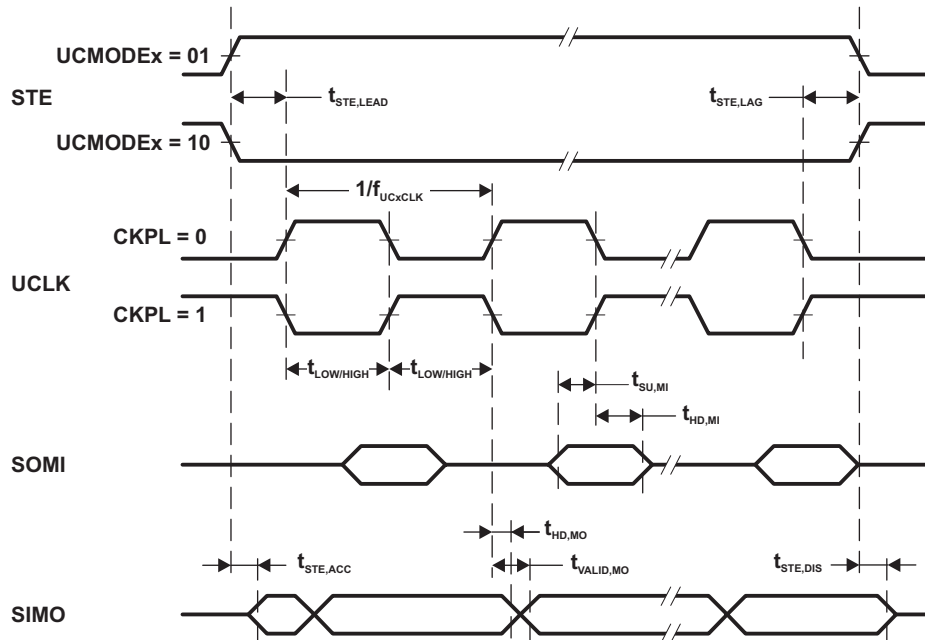
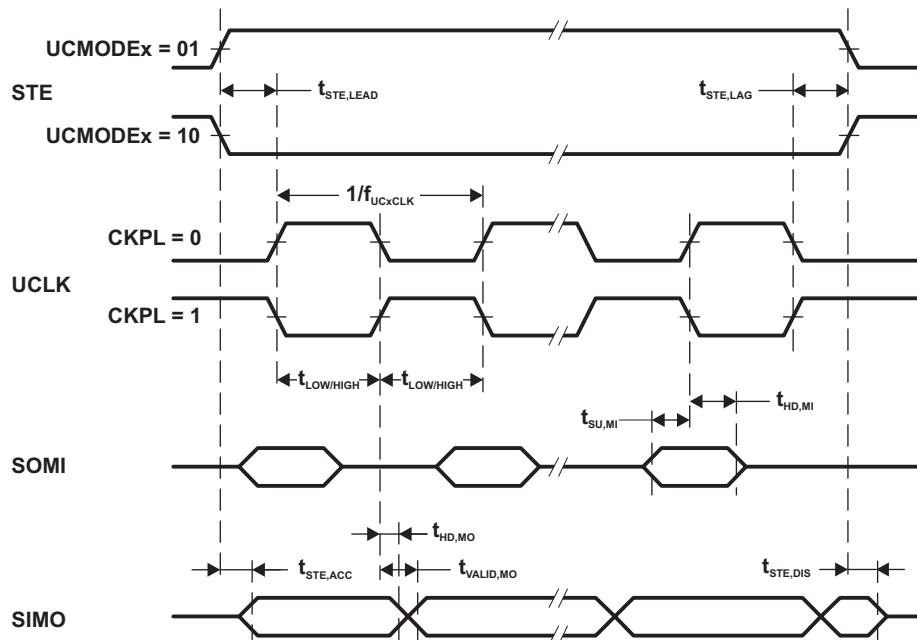

Figure 5-15. SPI Master Mode, CKPH = 0
Figure 5-16. SPI Master Mode, CKPH = 1
- (1) $f_{UCxCLK} = 1/2(t_{LO/HI})$ with $t_{LO/HI} = \max(t_{VALID,MO(eUSCI)} + t_{SU,SI(Slave)}, t_{SU,MI(eUSCI)} + t_{VALID,SO(Slave)})$. For the slave parameters $t_{SU,SI(Slave)}$ and $t_{VALID,SO(Slave)}$, refer to the SPI parameters of the attached slave.
- (2) Specifies the time to drive the next valid data to the SIMO output after the output changing UCLK clock edge. Refer to the timing diagrams in Figure 5-15 and Figure 5-16.
- (3) Specifies how long data on the SIMO output is valid after the output changing UCLK clock edge. Negative values indicate that the data on the SIMO output can become invalid before the output changing clock edge observed on UCLK. Refer to the timing diagrams in Figure 5-15 and Figure 5-16.